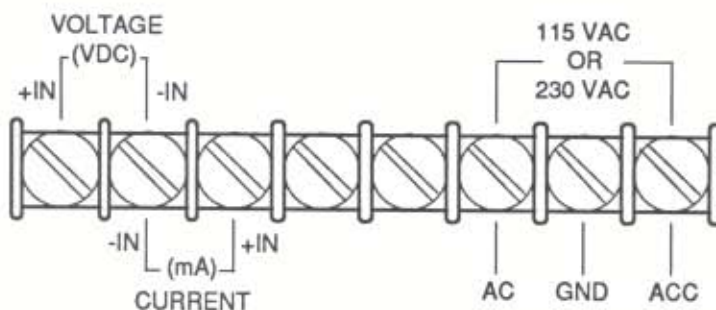

Figure 7. Standard DPD Electrical Connections
Figure 3 shows the equipment setup required to calibrate the DPD. See figure 7 in the Installation Section for terminal assignments.
2. See figure 7 for the DPD terminal pin assignments.
Standard Unit. The electrical connections are made to an 8-location terminal strip at the rear of the DPD. Figure 7 shows the electrical connections required for the standard DPD.